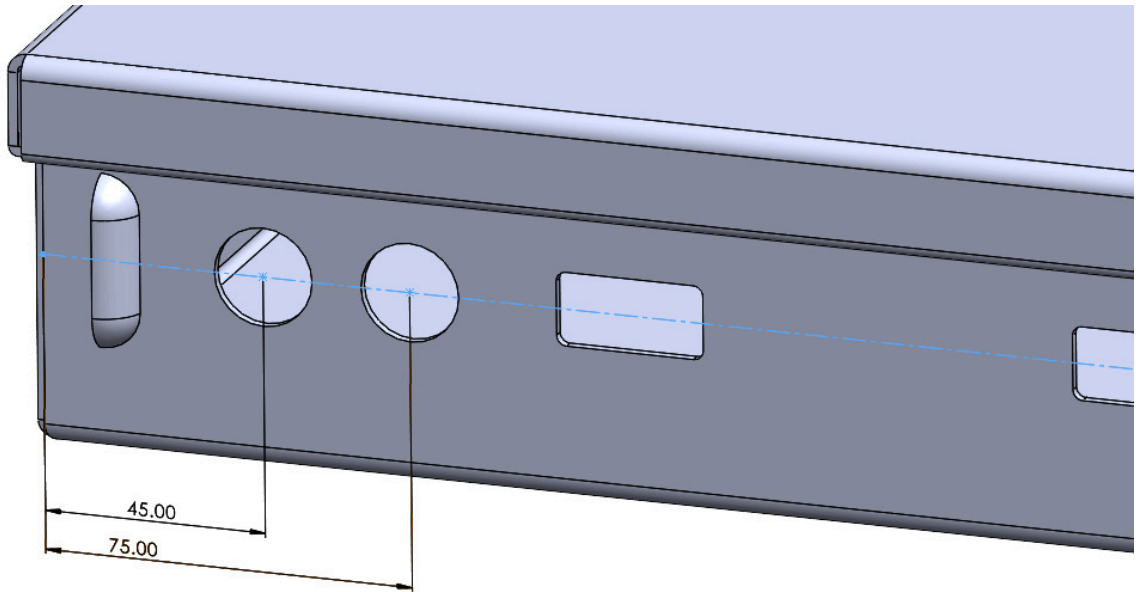

Figure 13.27 – Adjusting the position of the two circular holes (and the associated rectangular cut-out)
9. We can now see that the circular holes and the formed handles are too close together. Edit the **Hole Wizard** feature and move the two holes further away from the edge of the enclosure (*Figure 13.27*). The rectangular cut-out should also move position automatically since its position is defined relative to the two circular holes: